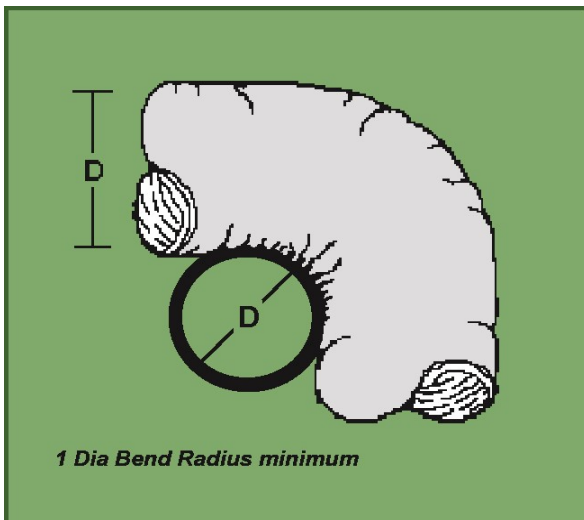

Figure 8
When making bends to flexible air ducts or air connectors, the diameter of the bend shall be greater than or equal to one (1) duct diameter (see Figures 8 & 9). If the bends are less than one (1) duct diameter this can significantly increase pressure drop throughout the system resulting in a reduction in the overall system efficiency and performance.